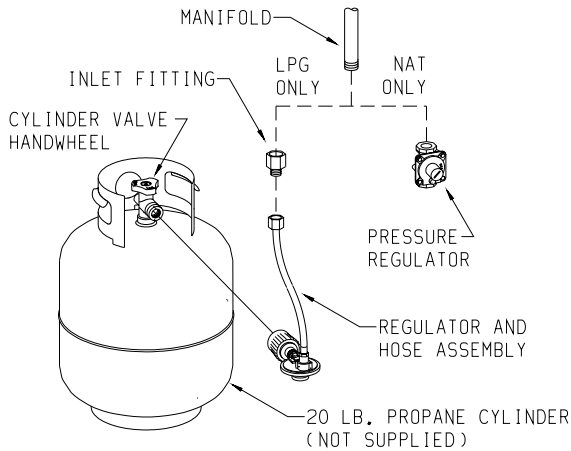

Figure 1
Connecting the Regulator to the Valve (Figure 1)
11. **For LP gas only**, thread brass inlet adaptor onto manifold pipe. Use teflon tape or a LP gas pipe compound to make a gas tight connection (see Figure 1).
12. **For LP gas only**, thread brass fitting from hose assembly onto brass inlet adaptor (see Figure 1). Tighten completely for a gas tight connection.
13. **For Natural gas only**, thread Natural gas regulator onto manifold pipe. Use teflon tape or a Natural gas pipe compound to make a gas tight connection (see Figure 1).